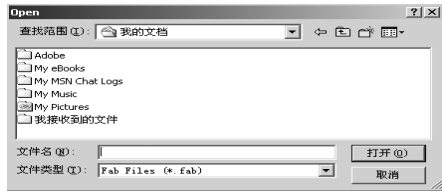

Fig 4.6
2. A dialog box will appear as shown in Fig 4.6.